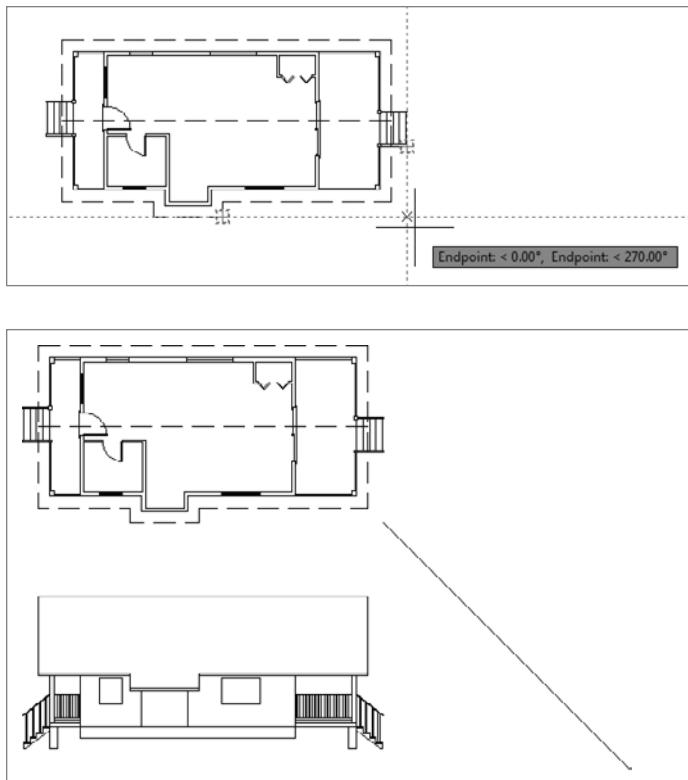

FIGURE 10.44 Starting a diagonal reference line with tracking points (top) and the completed diagonal line (bottom)
5. Move the crosshair cursor to a point directly to the right of the corner of the roof pop-out and directly under the intersection point of the handrail (see the top of Figure 10.44).
When the 45° Polar Tracking path appears, enter $40^{\circ}\downarrow$ (12200). Press \downarrow again. This completes the diagonal reference line (see the bottom of Figure 10.44).